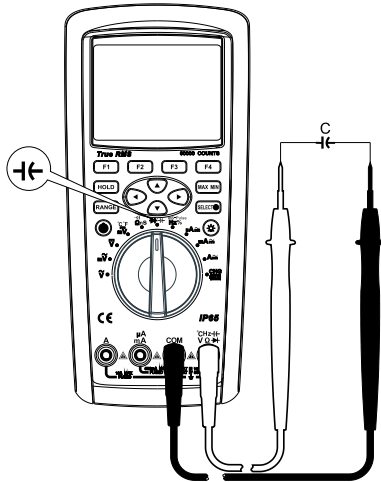

Figure 9
- 2) Set the rotary switch to the measurement  $\text{M}\Omega$  , press the key SELECT to select capacitance measurement. Connect the test leads to both ends of the measured capacitance as shown in Figure 9.